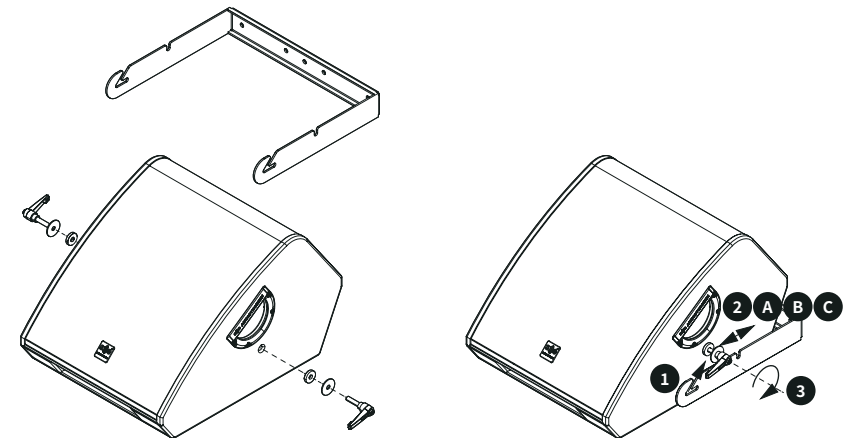

Figure 5. Attaching the **SMX 12UB** U-bracket to the SMX 12 monitor. Mind the three available mounting positions depending on the application.
9. Push the U-bracket until the handle screw is in position B of the U-bracket's arm, as shown in figure 5. Tighten softly the handle screws.